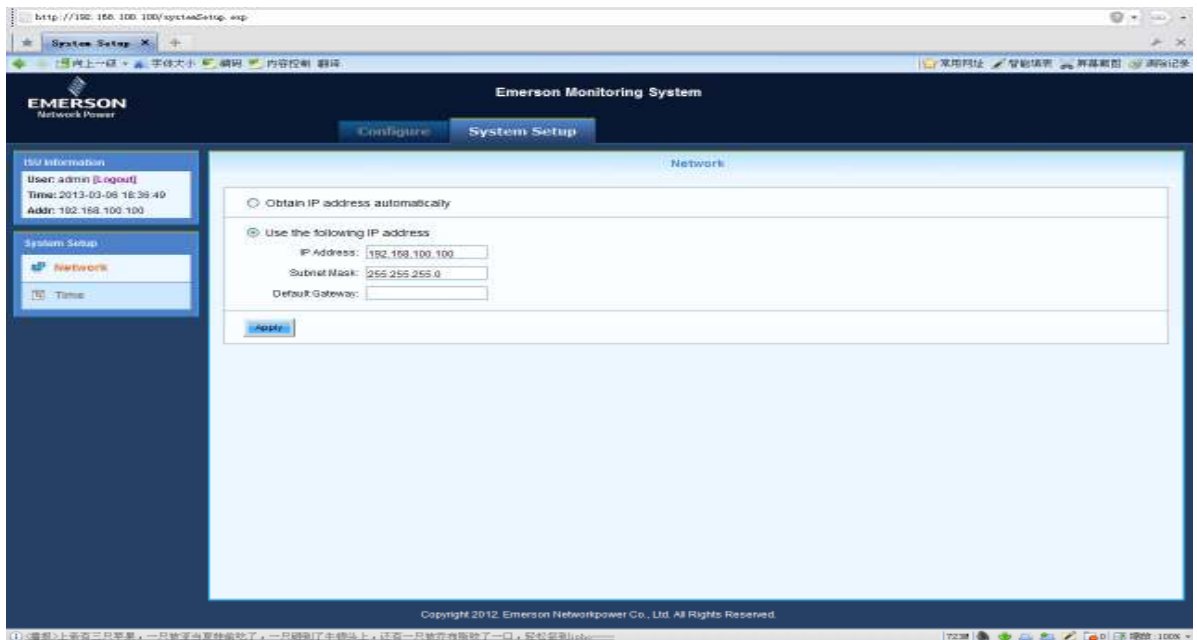

Figure 4-2 System Setup interface
2. In the interface shown in Figure 4-2, select the **System Setup** tab to set the IP address.